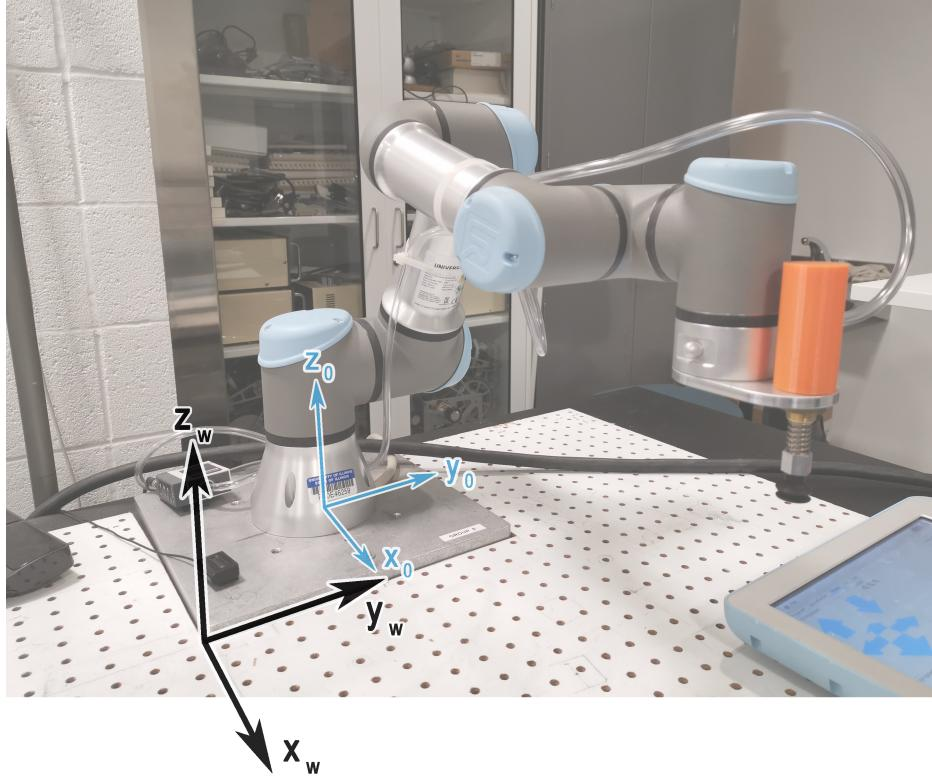

Figure 5.3: Correct location and orientation of the world frame.
1. Establish the world coordinate frame (frame w) centered at the corner of the UR3’s base shown in Figure 5.3. The x_w and y_w plane should correspond to the surface of the table, with the x_w axis parallel to the sides of the table and the y_w axis parallel to the front and back edges of the table. Axis z_w should be normal to the table surface, with up being the positive z_w direction and the surface of the table corresponding to $z_w = 0$.